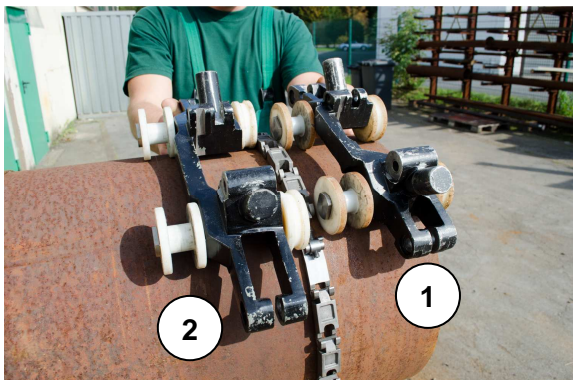
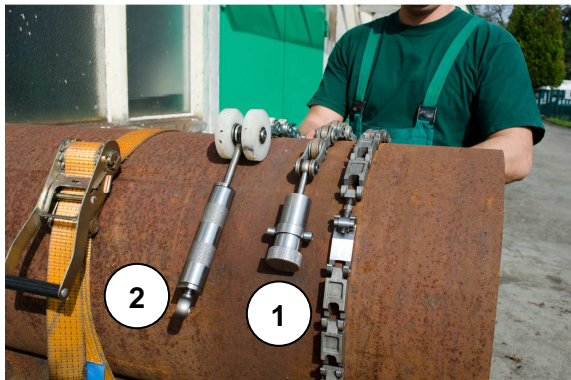

Fig. 2.1
Fig. 3.1
2. Position the guide carriage at the pipe as shown in the figure 2.1 and 2.2 (cutting point is at the side of the narrow wheels).
3. When using the small guide carriage (1) (see fig. 2.1), please use the small chain tensioner (1) (see fig. 3.1 and 3.4). When using the large guide carriage (2) (see fig. 2.1), please use the large chain tensioner (2) (see fig. 3.1 and 3.5).